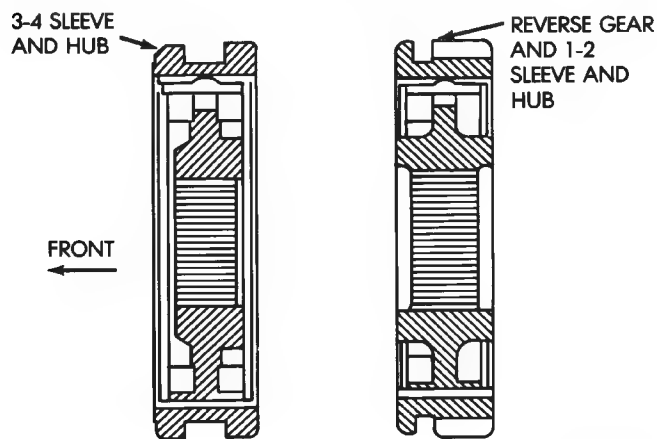

Fig. 74 Synchro Sleeve And Hub Identification
- (4) Assemble 1-2 and 3-4 synchro hubs and sleeves (Fig. 74).